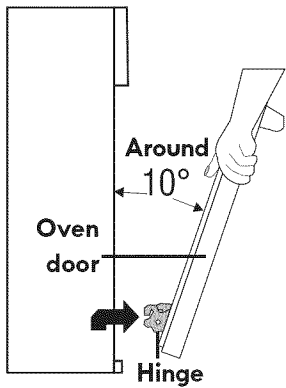

Figure 4C
3. Firmly grasp both sides of oven door along the door sides (Do not use the oven door handle- See Figure 4C).